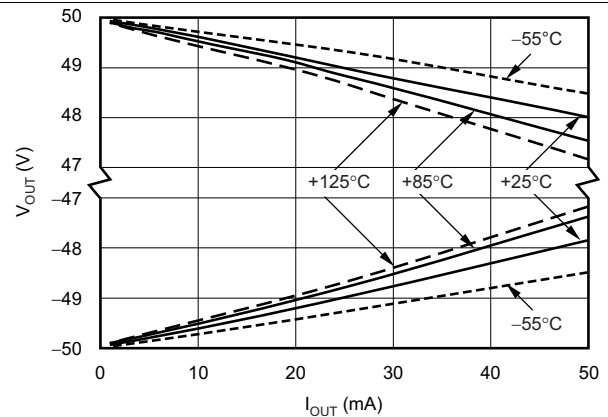

Figure 10. Output Voltage Swing vs Output Current (Measured When Status Flag Transitions From Low To High)
(8) See typical characteristic curve, *Output Voltage Swing vs Output Current* (Figure 10).